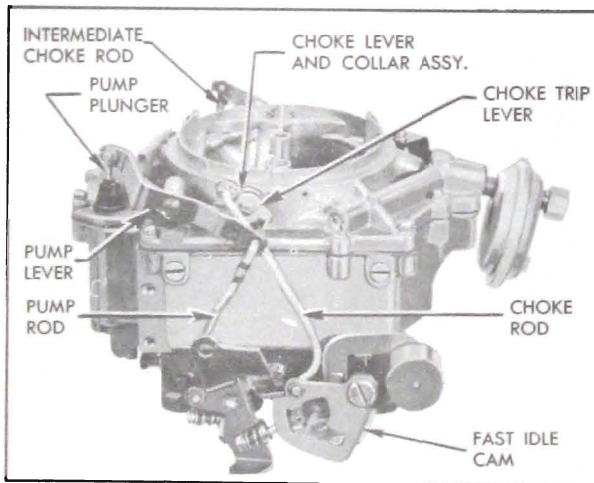

Figure 3-86—Exterior Linkage
2. Remove spring clip from upper end of intermediate choke rod. Then remove intermediate choke rod. See figure 3-86.
4. Remove choke trip lever and attaching screw. Remove fast idle cam attaching screw. Then remove choke lever and collar assembly, choke rod, and fast idle cam as an assembly. See figure 3-86.